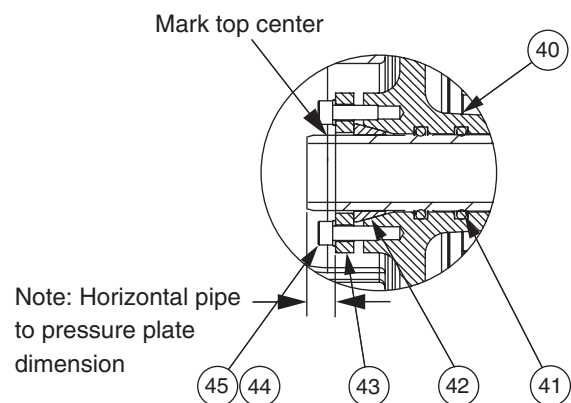

Figure 1
Mark the end of the horizontal pipe (99) where it passes through the pressure plate (43) or measure and record the distance from the pressure plate to the end of the horizontal pipe. See Figure 1. Mark the top center of the horizontal pipe. The horizontal pipe must be reinstalled in its original position, so horizontal pipe/syphon clearances inside the dryer will be maintained.